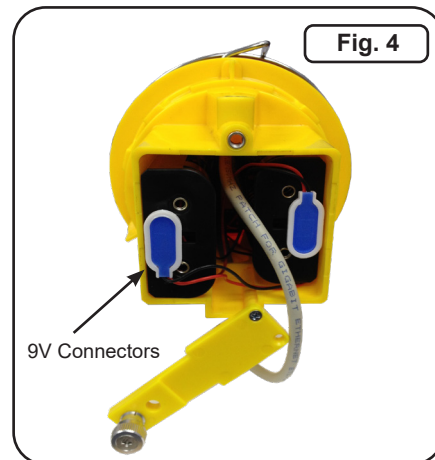

Fig. 4
3. Disconnect the (2) battery pack connectors and slide out the battery packs from the end cap [Figure 4].
4. Insert (8) C cell batteries into the battery packs, ensuring correct battery polarity. **Make sure batteries are fully inserted into the battery packs.**
5. Return the battery packs to the end cap and reconnect the (2) battery connectors. Swing the plastic bar back into place and tighten the screw.